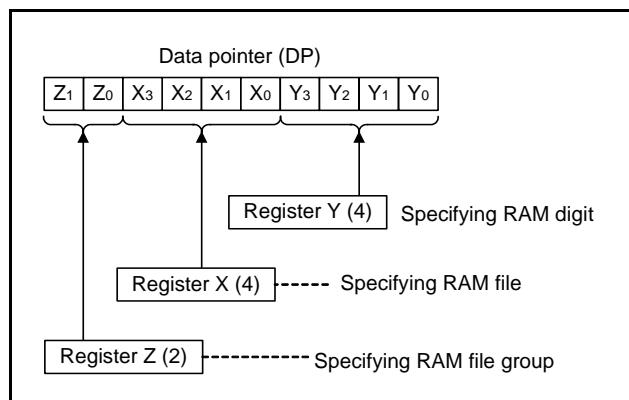

Fig 19. Data pointer (DP) structure
**(9) Data pointer (DP)**
Data pointer (DP) is used to specify a RAM address and consists of registers Z, X, and Y. Register Z specifies a RAM file group, register X specifies a file, and register Y specifies a RAM digit (Figure 19).